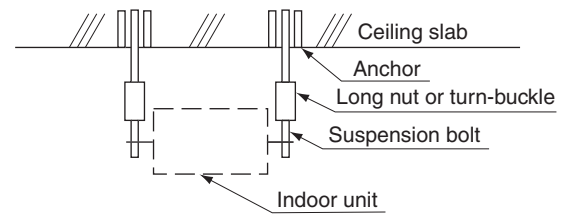

Fig.5
4. Install the suspension bolts. (Refer to Fig.5)